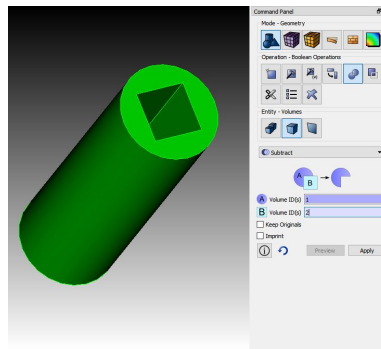

Figure 14: Subtract
- (3) subtract body 2 from 1 (Figure.14)